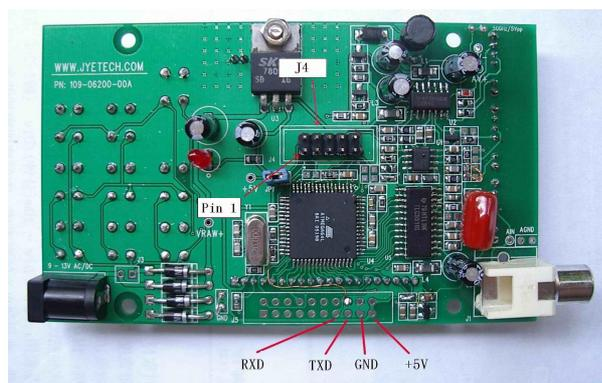

Fig. 1
- 1) Identify the programming header (J4) and its orientation (Fig. 1 and Fig 2).
- 1) Connect serial level converter to the serial port pins (shown in Fig. 1) of the scope board. Do not power up the scope yet.